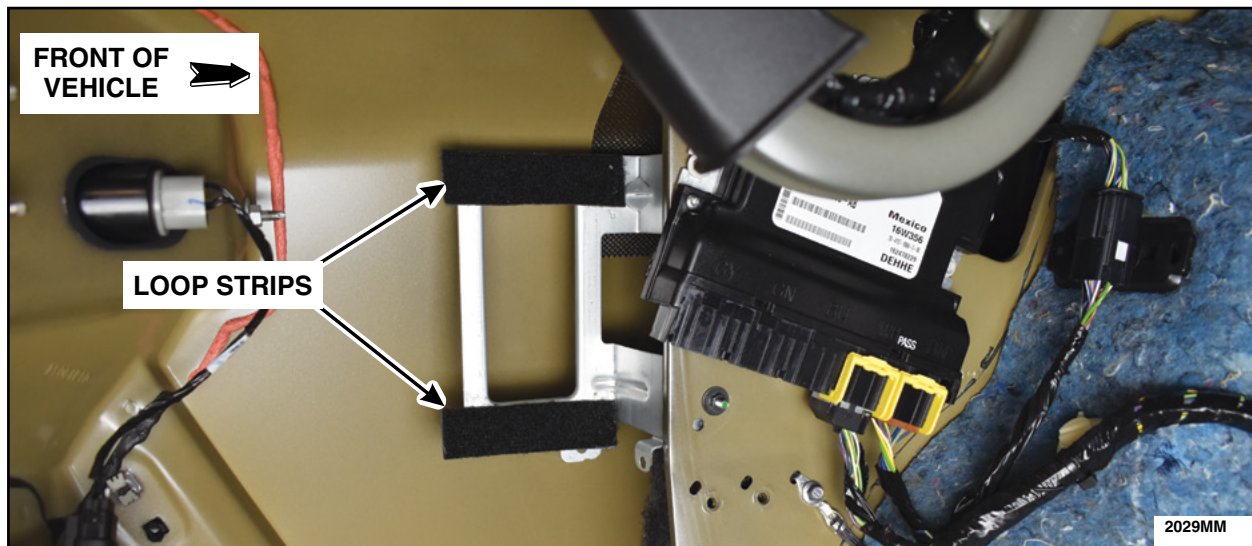

FIGURE 1
2. Clean the mounting bracket and apply loop strip. See Figure 1.